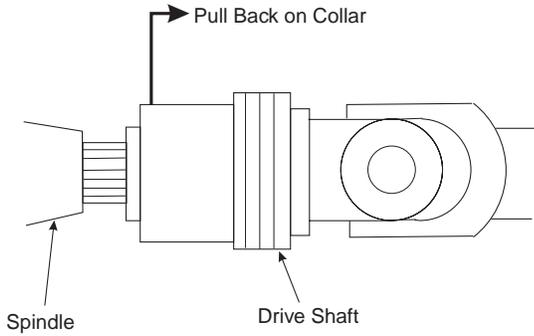

Figure 4-15 Disconnecting the Drive Shaft
1. Disconnect the drive shaft from the tractor by pulling back on the collar of the drive shaft (Figure 4-15) and sliding the drive shaft forward off the splined shaft of the spindle.
- A. Move the collar on the drive shaft back and hold it in place (Figure 4-15).